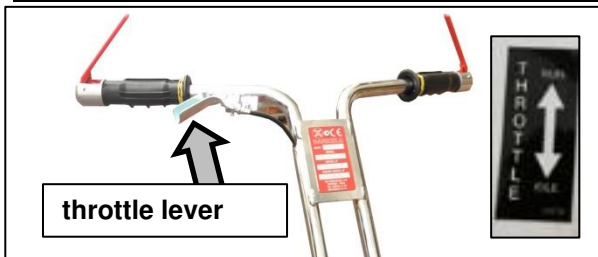

FIG.4.4
- Position the throttle (Fig. 4.4) in the idle position (the lever is provided with specific indications for use: **(on and off arrow, Fig. 4.4)**;
The release of the maintained action control (emergency stop, see fig. 4.4), involves an immediate arrest of trowel.